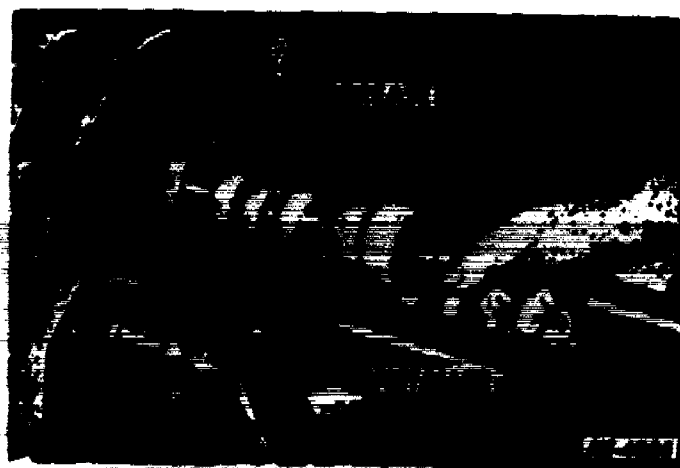

Fig. 96 Installing Camshaft using SE-1880 Installer Tool
4. Insert the camshaft into position in the camshaft bearings. To help prevent nicking and damaging camshaft bearings, use installer tool SE-1880, as shown in Fig. 96.